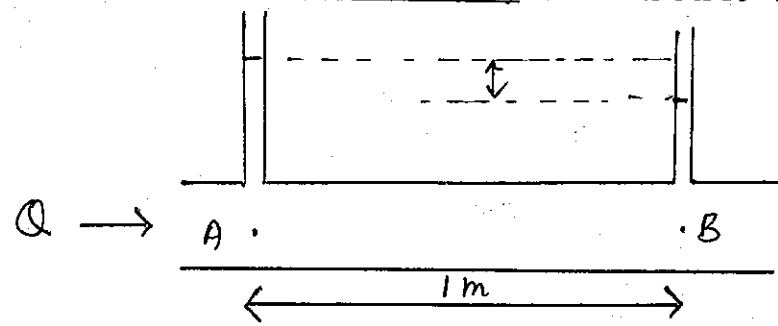

Figure 7
7) A student studies the effect of friction on the flow in a pipe using the apparatus shown in Figure 7. The apparatus consists of a long, horizontal pipe of diameter 50 mm . Two simple manometer tubes are fixed at two points A and B, which are 1 m apart as shown in the figure.